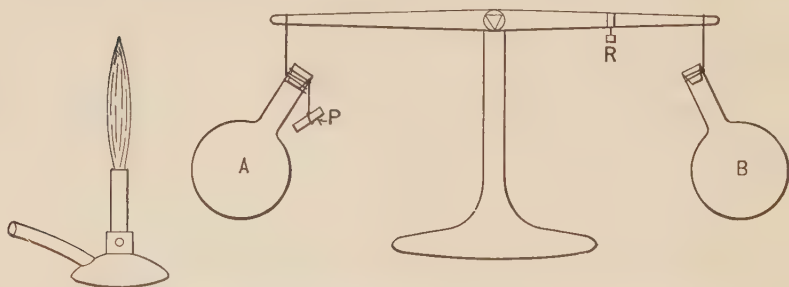

FIG. 22. — Apparatus used in showing that cold air is heavier than warm air.
17. Expansion changes the density. Density means the *weight of a unit volume* of a substance. A flask full of air at room temperature has a certain weight. If, after the air is heated, the flask full of air weighs less than it did before, the density of the contained air is less, but if it weighs more, the density is greater. Let us see what effect heat has upon the density of air. Referring to Fig. 22, *A* is a liter